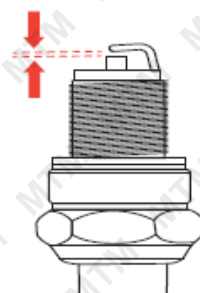

Fig.25
1. To remove spark plug (B) (Fig. 25) for cleaning or replacement, make sure the engine is off and the spark plug is cool.
4. Spark plug gap = .025 in (.635mm) (Fig. 25).